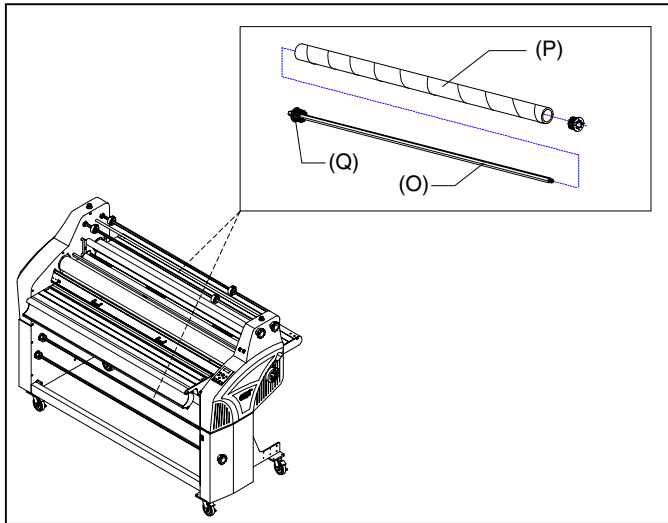

Fig. 19
O. REWIND SHAFT: (Figure 19) The rewind shaft holds the rewind tube on the machine.
P. REWIND TUBE: (Figure 19) The two rewind tubes located at the front of the machine are used to rewind release liners. The one located at the rear of the machine is used to rewind the finished product.
Q. REWIND ADAPTORS: (Figure 19) Hold and lock the rewind tube on the rewind shafts to prevent side to side shifting.
X. SEPARATOR BAR OPTION: (Figure 19) Required if running Accushield® material.